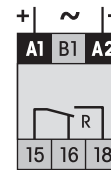

Fig.1 AC voltage endurance
Max. AC load AC-1 (Fig. 1)	2500 VA AC-1
**Connection diagram****Fig.1 AC voltage endurance****Fig. 2 DC load limit curve****Dimensions****Technical approvals, conformities**
Max. AC load AC-1 (Fig.1)	4 kVA
Rated operational current at 40 °C (Fig.1) 2 A
Product References**Standard****Railway****CIM12/UC24-240V****CIM12R/UC24-240V****Connection diagram****Fig.1 Output derating curve****Dimensions****Technical approvals, conformities**